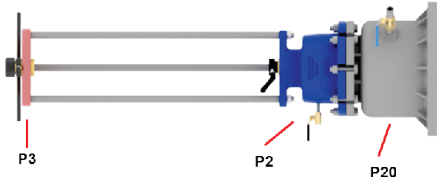

FIGURE 34
2.11.1) For 10"-12" Insta-Valve 250 only, bolt the Hydra-Tapper to the P-20 component using the bolts and nuts included with Hydra-Tapper equipment (see Figure 34).